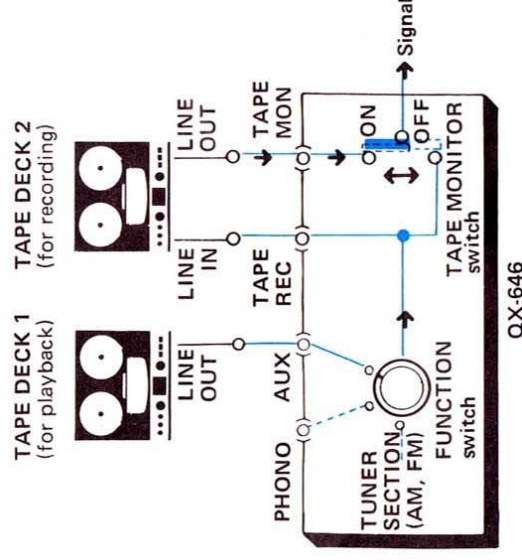

Fig. 20
1. Connect two tape decks as shown in Fig. 20.